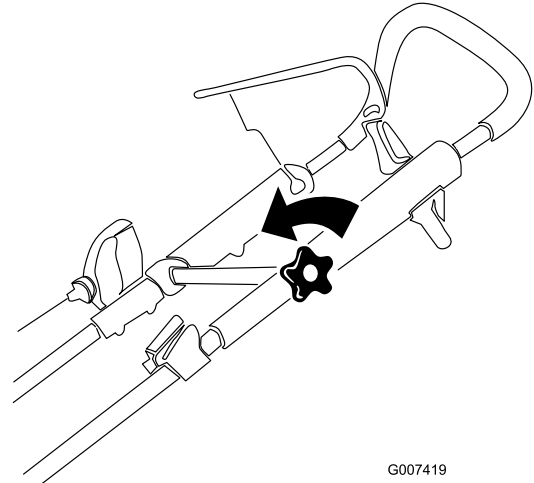

Figure 12
1. Loosen the upper handle knob (Figure 12).